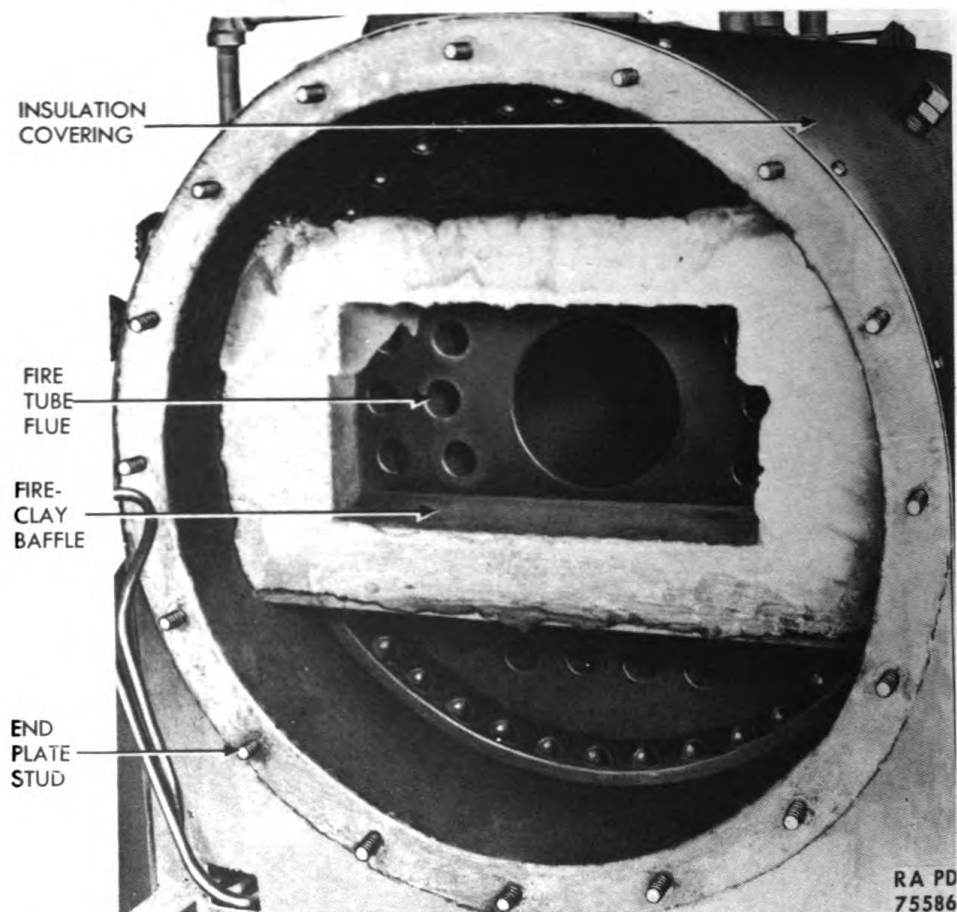

Figure 98 — Steam Generating Plant Boiler With End Plate Removed
(2) **BOILER** (fig. 98). The boiler is a horizontal, 4-pass, down-draft, fire tube, internally fired, self-contained type. It is of steel construction and cylindrical in shape. It has integral internal fire chamber and flues to facilitate transmission of heat to the water. The internal diameter of each of the flues is 2 inches. A 2-inch blanket of mineral wool insulation enclosed in a steel outer covering insulates the upper half of the boiler.